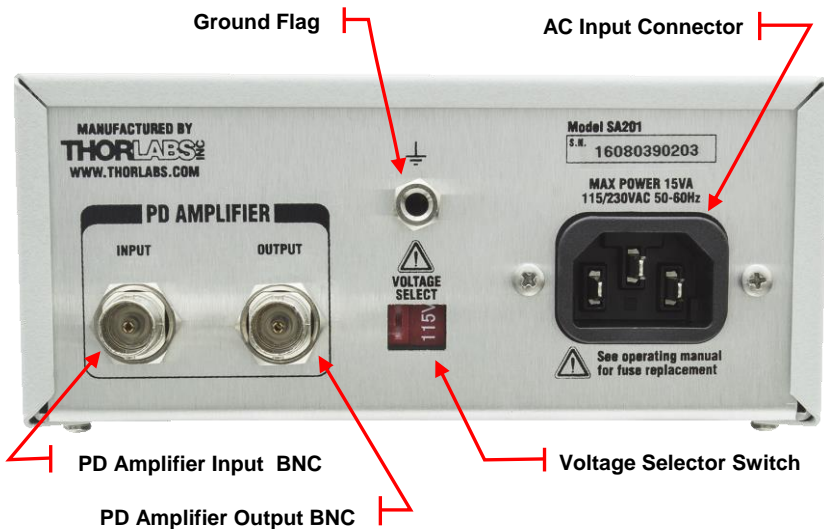

Figure 4 SA201 Rear Panel Connections
The voltage selector switch allows the user to select the input line voltage. The factory default setting is 100/115 VAC as shown in Figure 4. To operate at 230 VAC, this switch will have to be moved to the 230 V position. The line fuse will also need to be changed to properly protect the unit. See sections 5.2 below for detailed instructions.
2. Locate the voltage selector switch on the rear panel. See Figure 4 above.